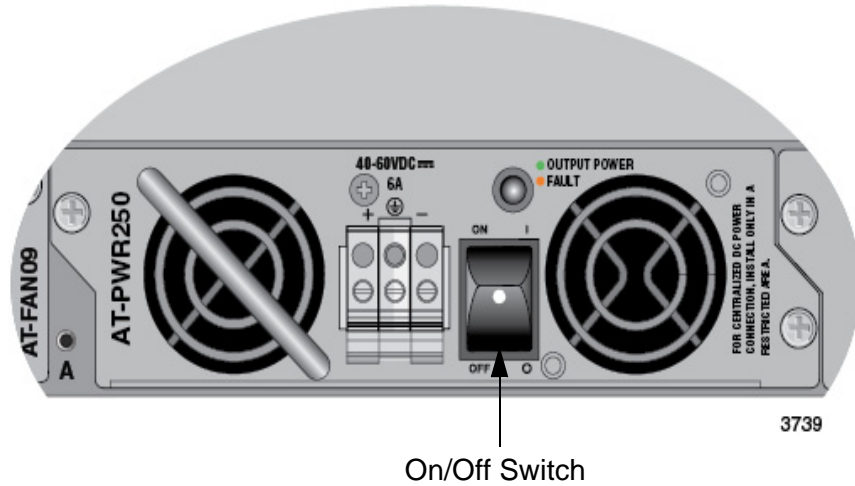

Figure 66. On/Off Switch on PWR250-80 Power Supply
2. Verify that the On/Off switch on the power supply is in the Off position. Refer to Figure 66.